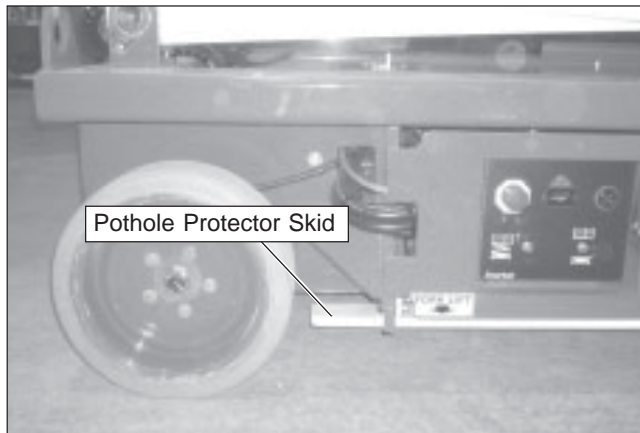

Figure 8.12 – Pothole Protector Skid
3. With the trays closed, check the ground clearance under the pothole protector skids (refer to Figure 8.12). Clearance should be at about 10.1 cm (4") on both sides of the aerial platform.